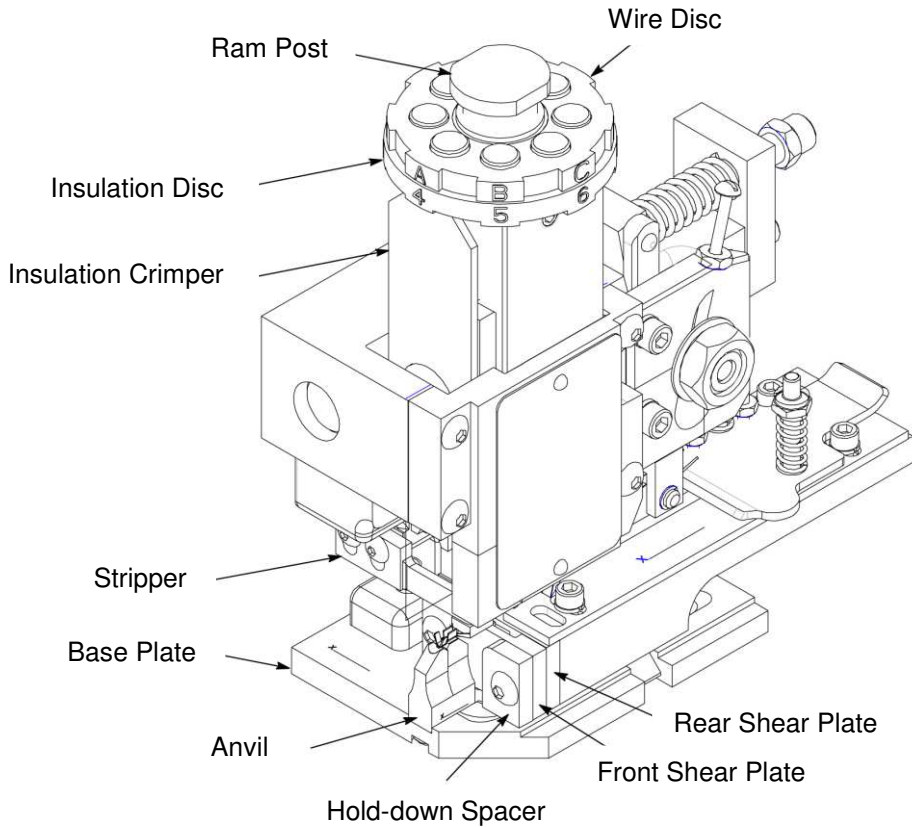
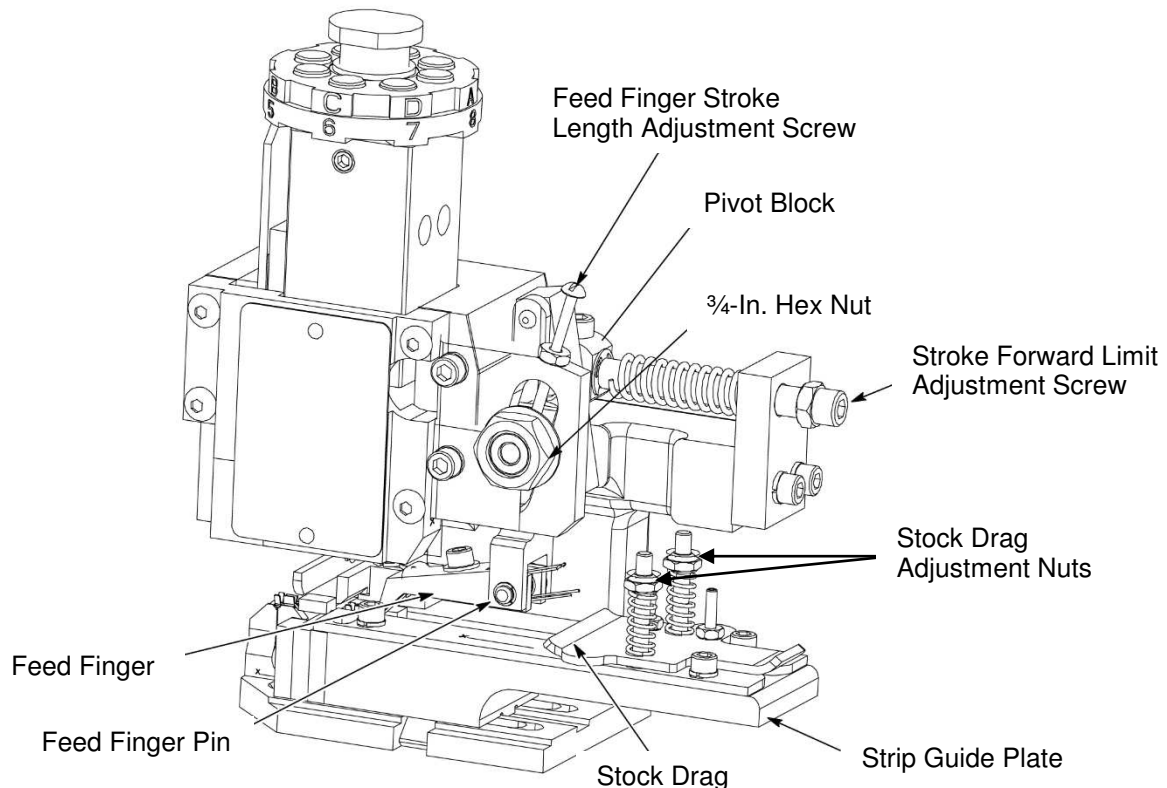
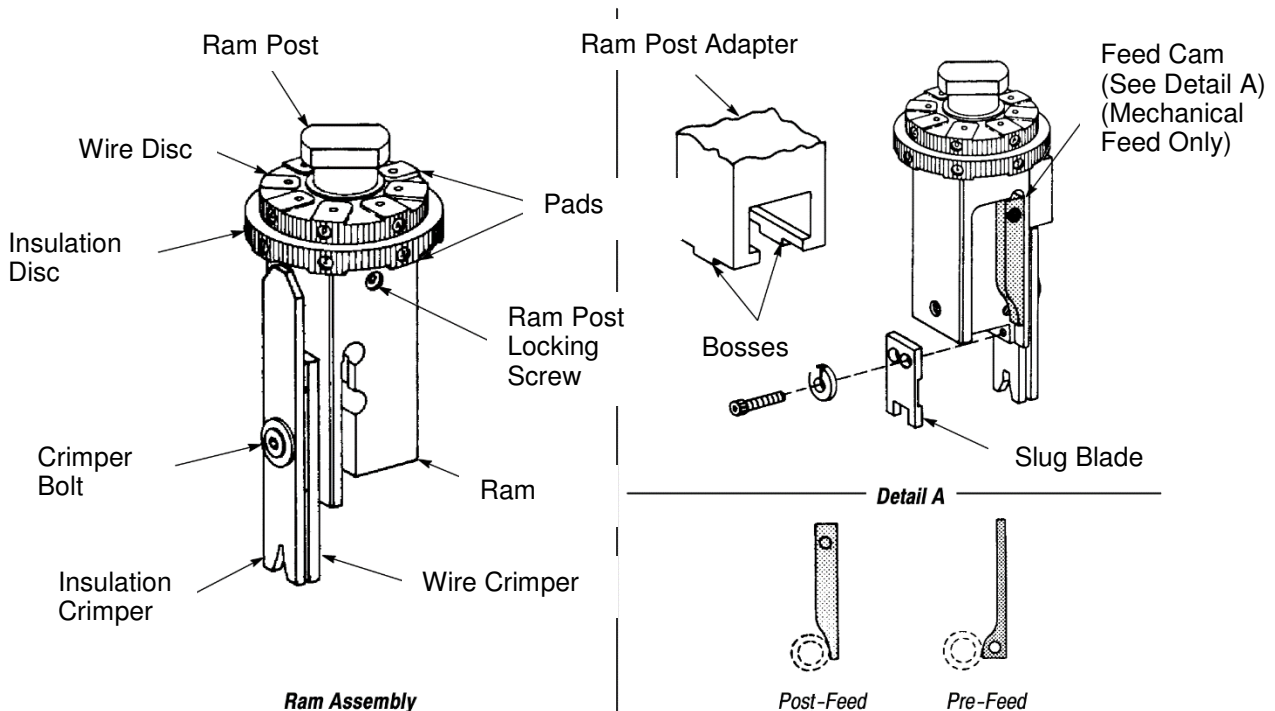

Figure 1
Figure 2
Figure 3
Heavy Duty Miniature Quick-Change Applicators (Figure 1) apply end-feed strip terminals to pre-stripped wires. Each applicator accepts the strip form of certain terminals, which are identified on the applicator parts list and exploded view drawing (Applicator Log) for each applicator. The terminal listed on the data plate is the one that was specified when the applicator was ordered.
The main components of the applicators with mechanical feed are identified in Figure 1 and Figure 2. The ram assembly is shown in detail in Figure 3. Figure 4 and Figure 5 show the applicators with air feed.
The ram post (also referred to as the ram mounting post) engages the post adapter of the machine ram, and it is the machine ram that actuates the applicator. Just below the ram post are the wire disc and insulation disc. The wire disc has as many as four pairs of pads, depending on the number of different wire sizes the terminals will accept. Each pair of pads has a different height. By rotating the disc, each pair of pads can be lined up with the two bosses on the ram post adapter (see Figure 3) to change the length of stroke of the wire crimper over the anvil. The insulation disc contains eight pads of different heights. When this disc is turned, the pads line up with the top of the insulation crimper to change the insulation crimp height.
2. Turn wire disc (upper disc) to line up selected pad letter with **BOSSSES ON RAM POST ADAPTER** (reference Figure 3). This provides the right crimp height for that wire size.